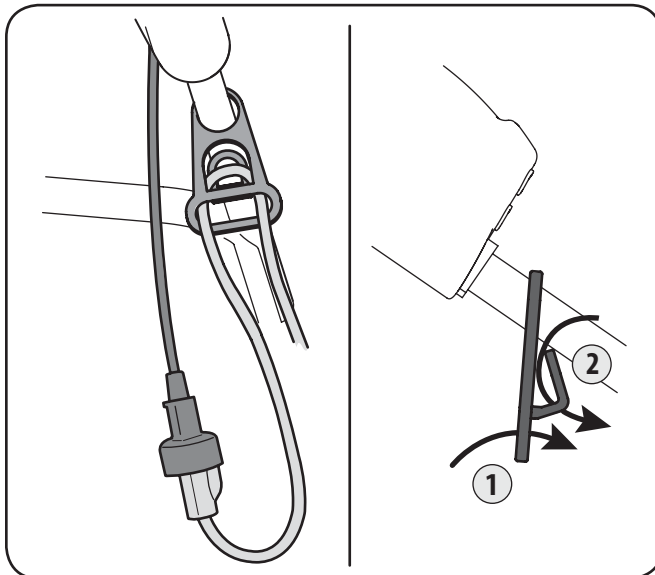

Figure 5-1
**NOTE:** Connect your extension cord to the mower as instructed in the Set Up section prior to plugging your extension cord into an electrical outlet. See Fig. 5-1.